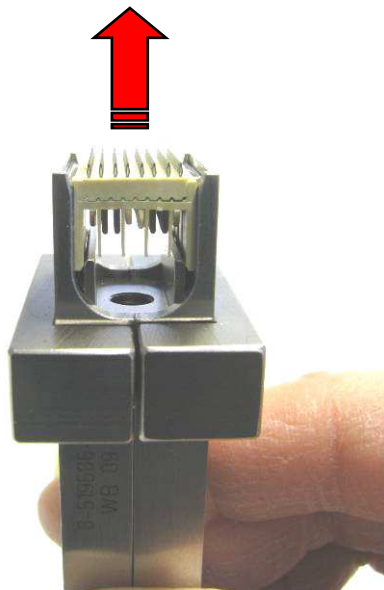

Figure 17
4. In order to remove the connector from the tool the gripper plates including the connector must be brought back into the basic position by turning the handle counter clockwise (see figure 17 and 18).